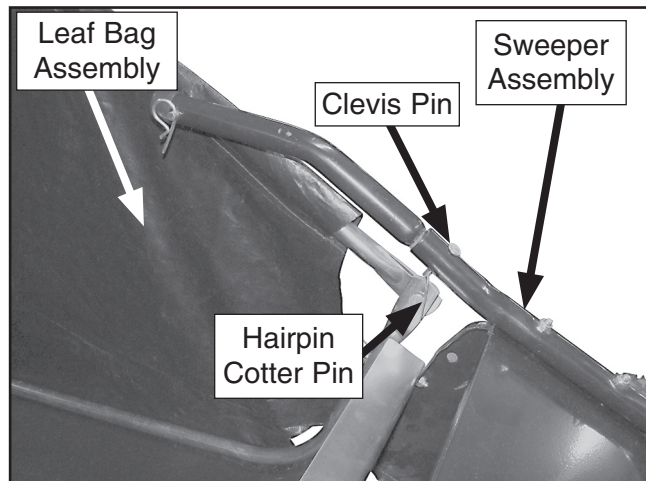

Figure 17. Bag attachment.
- Attach the leaf bag assembly to the sweeper assembly using an M6 x 33 clevis pin and a 2mm hairpin cotter pin, as shown in **Figure 17**. Repeat for both sides.